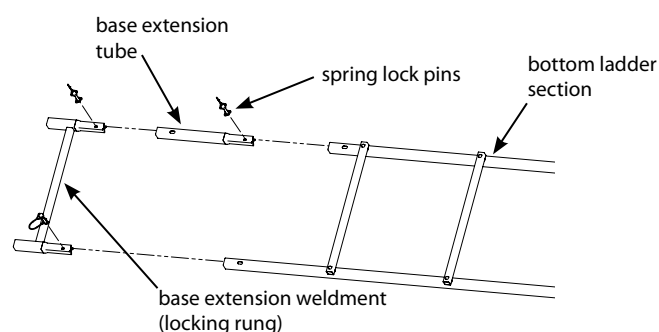

Figure 6
8. Insert one side of the base extension weldment (410044) into the base extension rail tube (410040) and secure with (1) spring lock pin. Handle of spring lock pin must be put to the outside of long rail. **SEE FIGURE 6.**
9. Take the factory assembled ladder sections and unfold them to their fully deployed width. Insert the previously assembled base extension into (1) 3-step ladder section (410032) and secure with (2) spring lock pins. Handle of spring lock pins must be put to the outside of the ladder side rails. **SEE FIGURE 6.** This step now makes this the bottom ladder section.